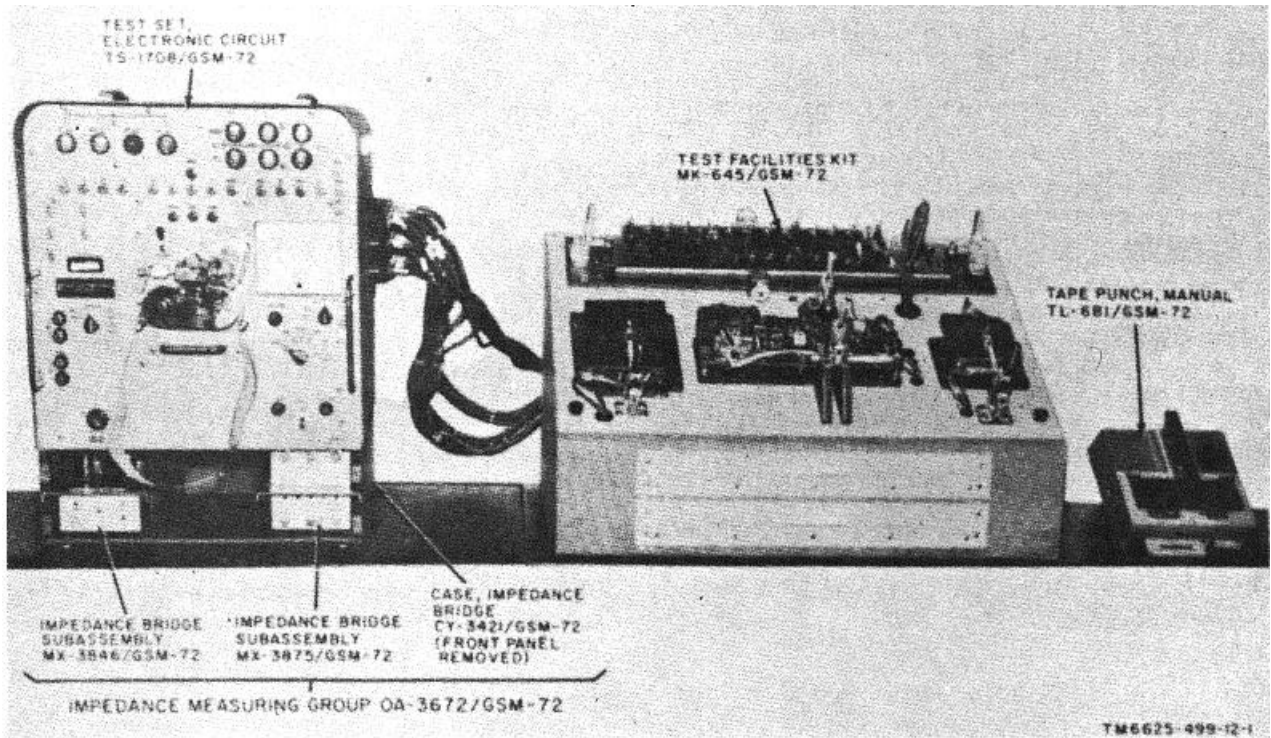

Figure 1. Test Set, Electronic Circuit AN/GSM-72, connected to Test Facilities Kit MK-645/GSM-12, less tools, technical manuals, and running spares.
This manual describes Test Set, Electronic Circuit AN/GSM-72 (fig. 1) and covers its installation, operation, and first and second echelon maintenance. It includes instructions for operation, cleaning and inspection of the equipment, and replacement of parts available to first and second echelon maintenance personnel. This manual also covers Slave Unit, Test Set MX-3844/GSM-72 and Test Set Subassembly MX-3845/GSM-72, which are used with Test Set, Electronic Circuit AN/ GSM-72.
The components of Test Set, Electronic Circuit AN/GSM-72 are listed in the basic issue items list (appx III). The major components, tools, and running spares are illustrated in figures 1, 2, and 3.
8. Description of Test Set, Electronic Circuit AN/GSM-72 (fig. 1)